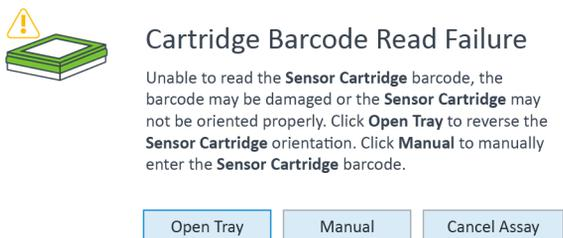

Figure 13. Cartridge Barcode Read Failure dialog box
For any Sensor Cartridge barcode read errors, Wave Controller displays a message and a choice of three corrective actions. (See **Figure 13**.)
- 1 Click the Tray Widget. Cartridge Barcode Read Failure dialog box appears. (See **Figure 13** on page 33.)